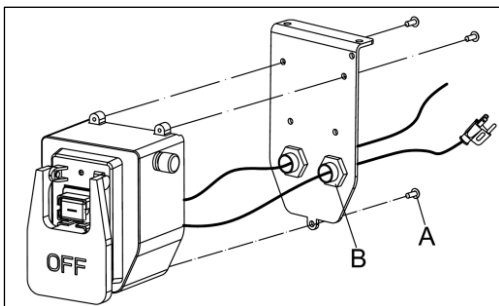

Fig. 20
1. As shown in **Fig. 20**, unscrew the screws (A) and loosen the strain reliefs (B), then take off the switch box.